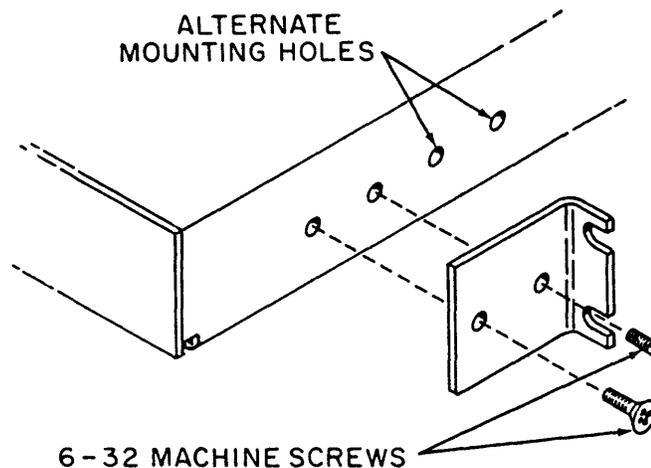

Fig. 1 - Mounting Bracket Installation
2.04 Install side brackets by lining up holes on the brackets with either the front two or rear two mounting holes on the side panels. (The brackets' mounting flanges can be positioned either toward the front or the rear of the chassis, as desired.) Thread mounting screws into tapped holes until tight (see figure 1).